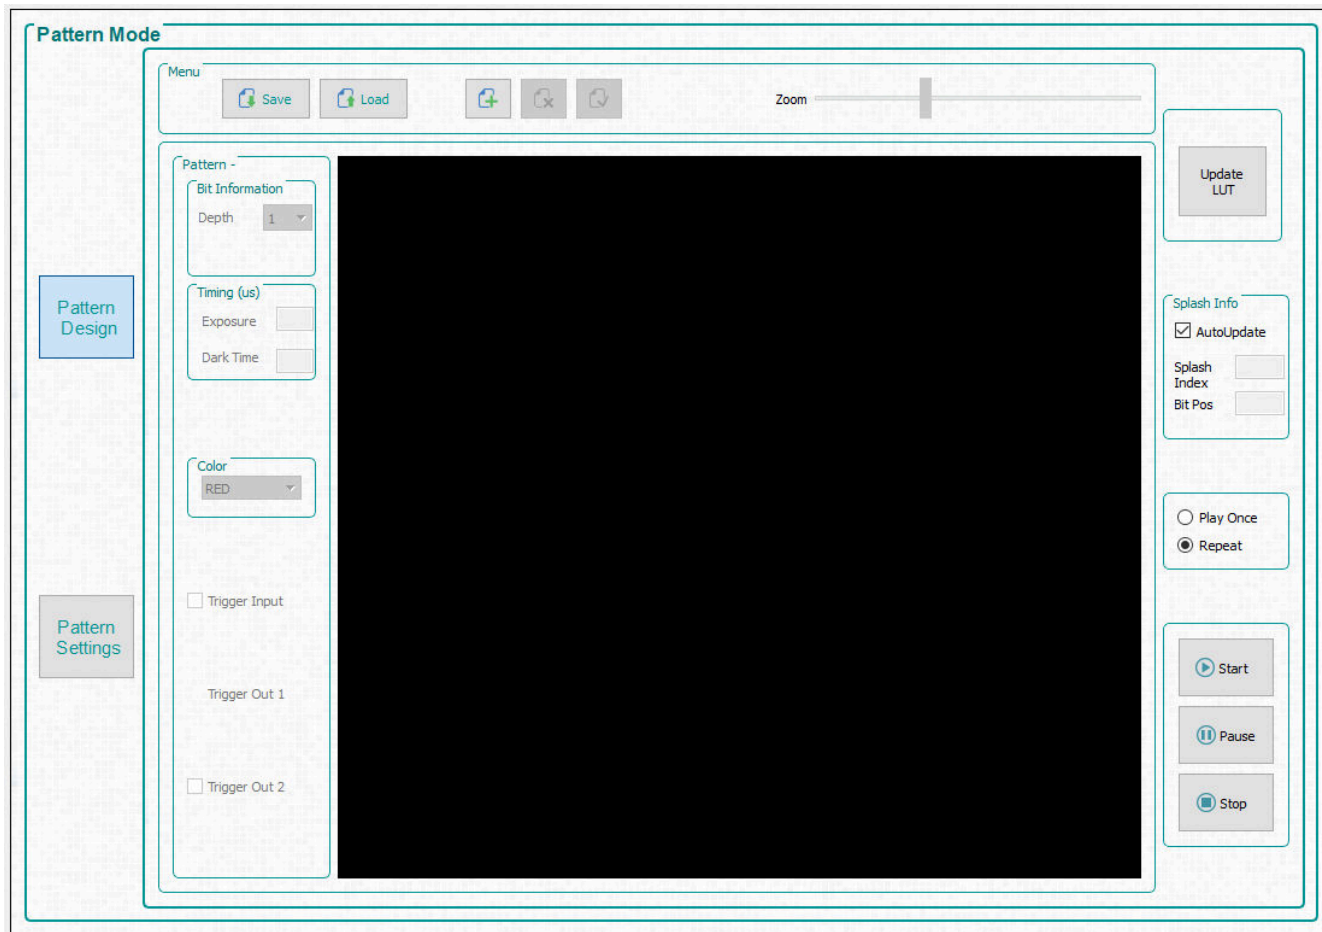

Figure 2-1. Pattern Mode Panel
1. Select *Pattern On-The-Fly Mode* from the *Operating Mode* group box, and click the *Pattern Design* button so that the panel is displayed as shown in Figure 2-1.